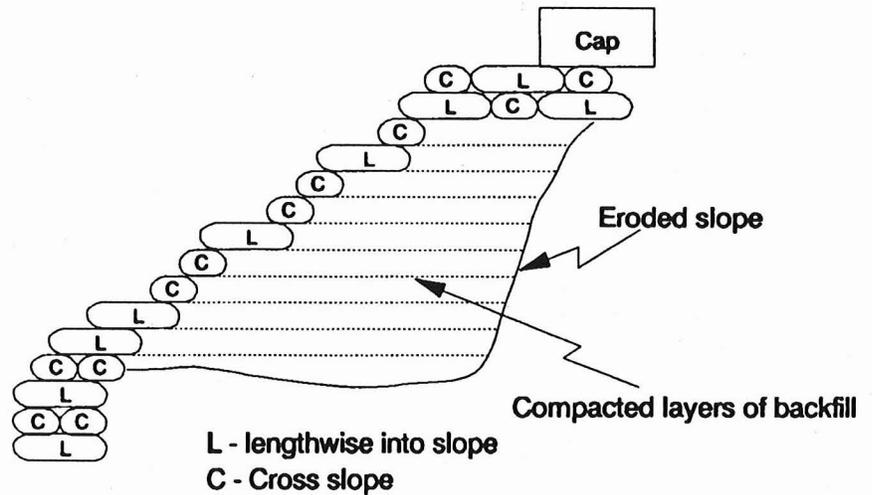

Figure 3 Sacked Riprap to Correct Abutment Erosion
(2) The repair of an eroded bridge abutment is illustrated in Figure 3. Note the use of a cut off or toe wall at the bottom of the sacked sand riprap slope. Also, note that the material placed behind the riprap is to be compacted. Some of the sacks are placed at 90 degrees to the slope to help provide additional stability. The soil should be placed so that the compacted layers are about the same depth (about 8-inches) as the sacked riprap.